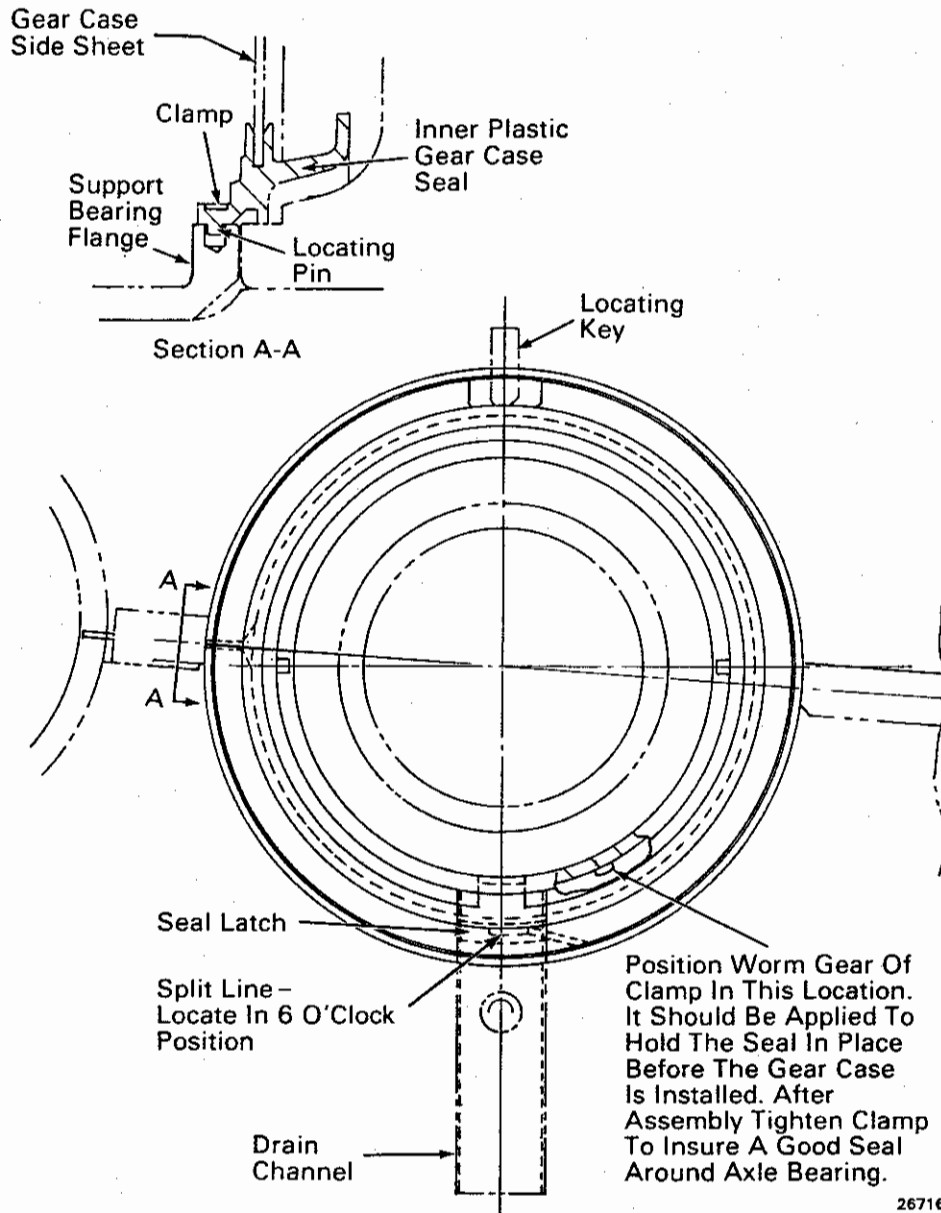

Fig.9 - Inner Seal (Traction Motor Side)
3. Install the seals onto the motor/axle assembly around the axle with outer seal 9535375 between the gear and wheel and inner seal 9535376 between the gear and support bearing. The seals are flexible and can be twisted or "snaked" into position. Fasten the seal latches making sure that they are at the 6 o'clock position. The pins on the inner seal should be engaged with the holes in the support bearing flange Fig. 9. Check to see that the notch on each seal will engage with the locating keys on the upper gear case half, Figs. 9 and 10. Finally, the lip on the outer seal should ride on the wheel hub and should not be folded under.